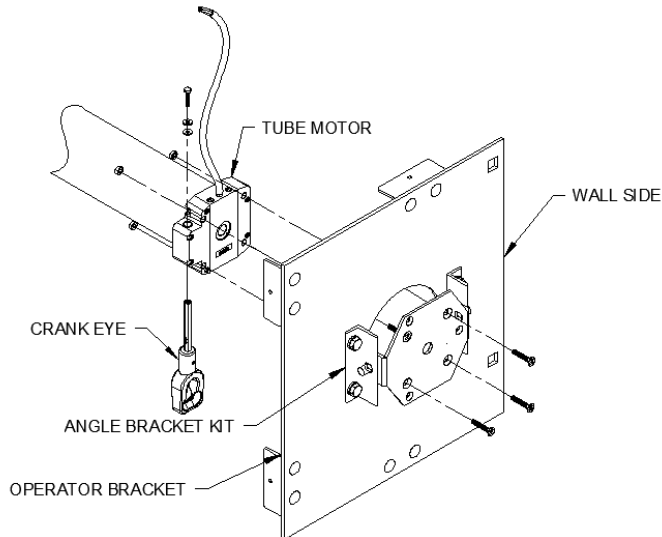

Figure 6.3 – 4" Shaft Assembly
Slide the operator bracket over motor head. Position bracket so that crank shaft is vertical & opposite the wall side. Align the (4) holes in the angle bracket kit with the corresponding holes in the tube motor and fasten using the provided hardware. See **Figure 6.3**.